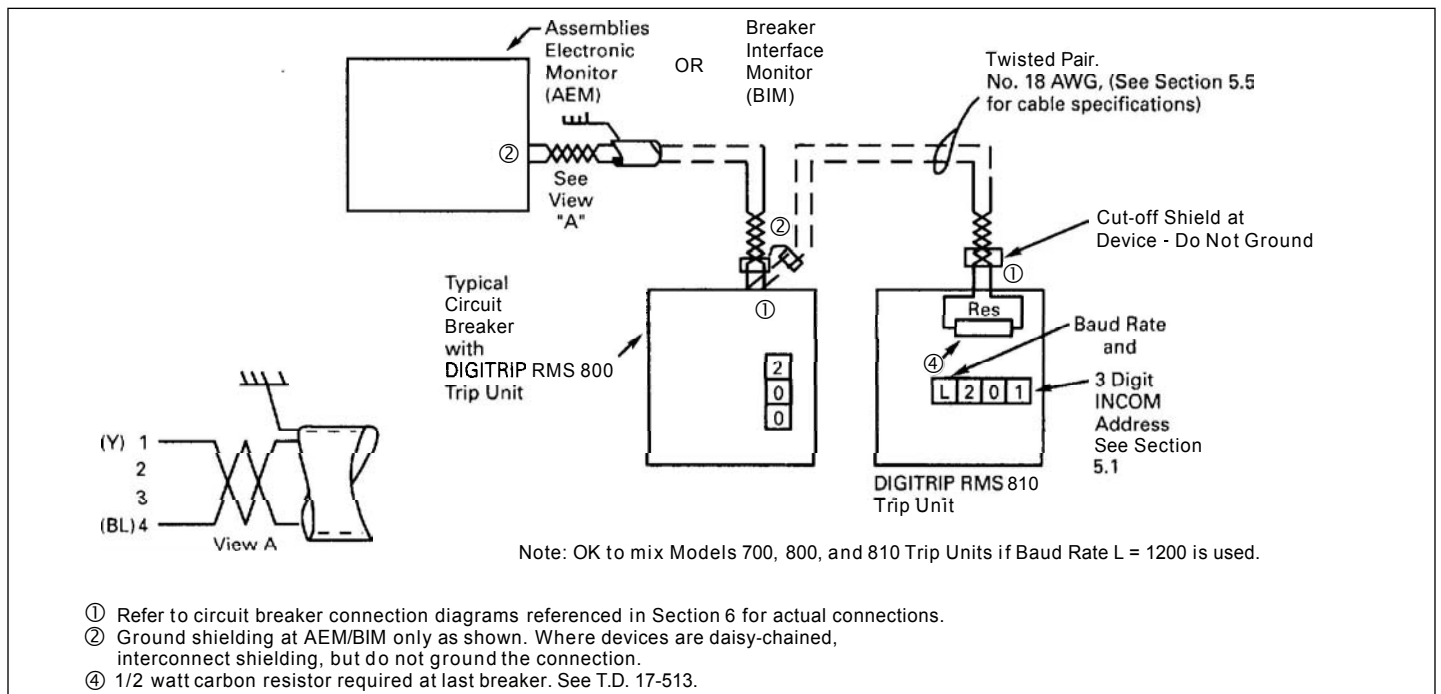

Figure 22. INCOM Network with AEM / BIM.
- An Assemblies Electronic Monitor (AEM) or Breaker Interface Module (BIM) for local or remote monitoring (see Figure 22 and references in Section 6).
An Assemblies Electronic Monitor (AEM) or a Breaker Interface Monitor (BIM) can be applied in the same assembly with the circuit breakers, or at a location remote from the breakers, to monitor the information from any of the Digitrip RMS 810 Trip Units. The connections in the network are made by twisted pairs of wires as shown in Figure 22. Digitrip RMS 810 Trip Units should be set to communicate at 1200 Baud when applied on the same network with Digitrip RMS 700 and 800 Trip Units (see Section 5.1, Item 5).